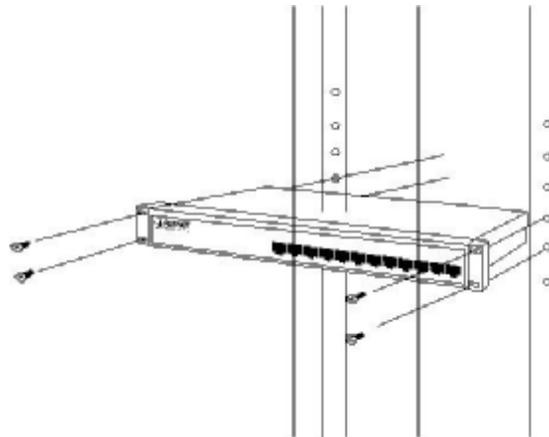

Figure 2-4 Mounting the Switch in a Rack
Step5: After the brackets are attached to the switch, use suitable screws to securely attach the brackets to the rack, as shown in Figure 2-4